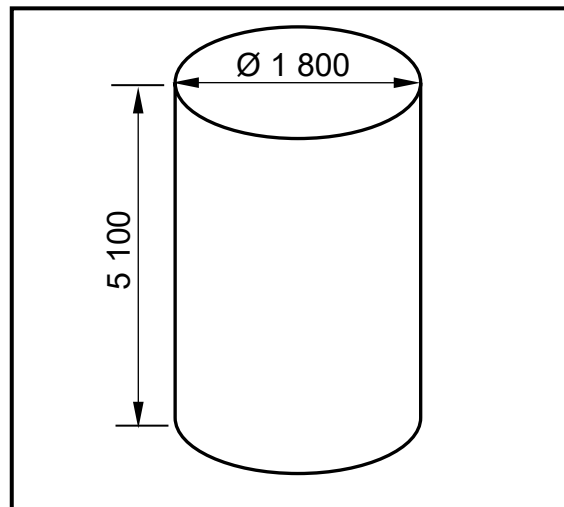

FIGURE 3.5
- 3.5 FIGURE 3.5 below shows a drawing of a cylindrical geyser.